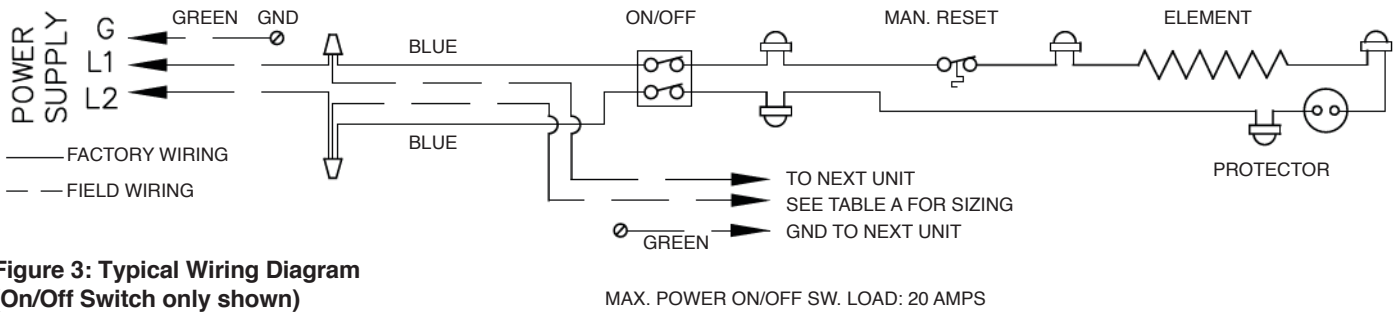
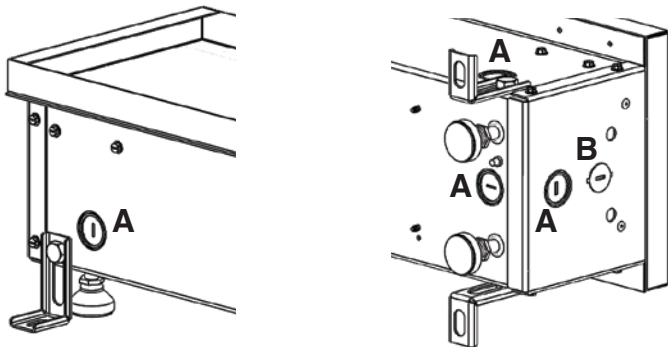

Figure 3: Typical Wiring Diagram (On/Off Switch only shown)
Figure 4A: Knockout Locations
1. Run branch circuit of proper voltage and wire size to location of left or right (future) junction box as indicated on heater wiring diagram – example in Fig.3. Heaters are prewired for connection to branch circuit at one end only (refer to heater wiring diagram). However, heater can be wired from opposite end by running wires through heater wire way. See Figures 4A & 4B for knockout locations.
2. Remove appropriate electrical knockouts from either end cap, side or bottom. See Figures 4A & 4B for location of knockouts.
3. Remove appropriate electrical knockouts from either end cap, side or bottom. See Figures 4A & 4B for location of knockouts.